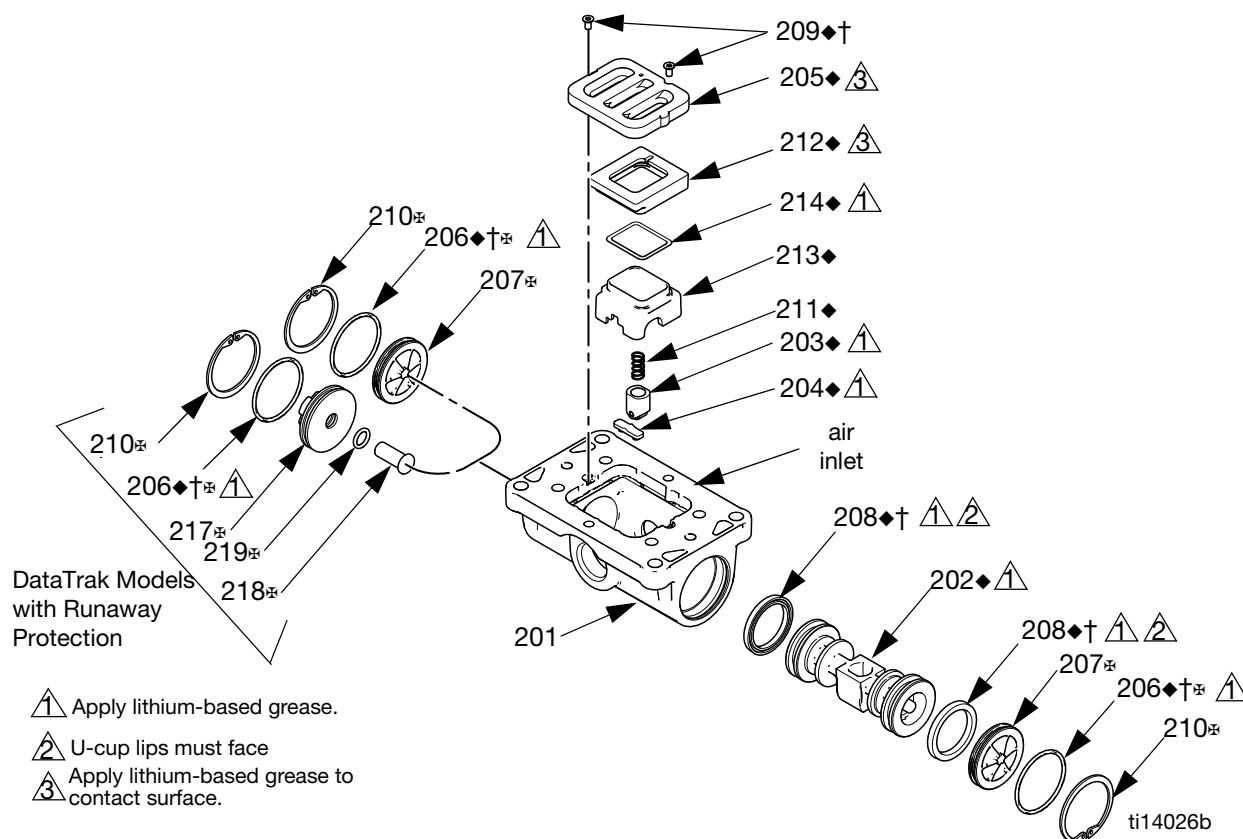

FIG. 4. Air valve assembly
2. See FIG. 4. Use a Torx screwdriver (T8 for aluminum centers, T9 for plastic centers) to remove two screws (209). Remove the valve plate (205), cup assembly (212-214), spring (211), and detent assembly (203).
3. Pull the cup (213) off of the base (212). Remove the o-ring (214) from the cup.
4. See FIG. 4. Remove the retaining ring (210) from each end of the air valve. Use the piston (202) to push the end caps (207, 217) out of the ends. Remove end cap o-rings (206). If pump model is equipped with a runaway protection solenoid, also remove the solenoid release button (218) and o-ring (219).
5. Remove the u-cup seals (208) from each end of the piston (202), then remove the piston. Remove the detent cam (204) from the air valve housing (201).